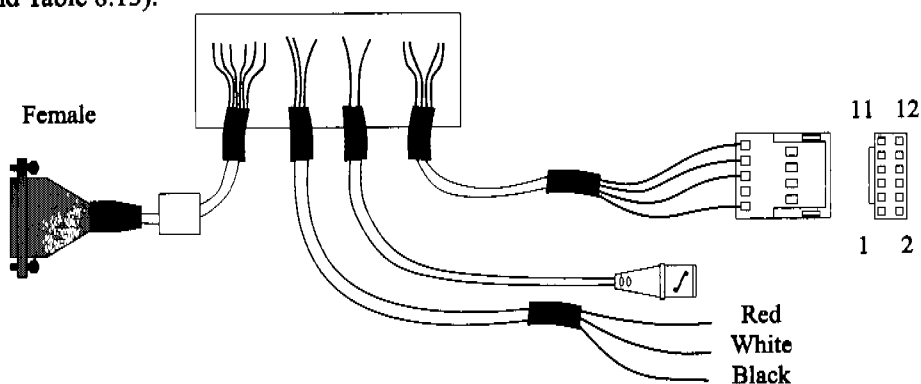

Figure 8.17. Handshake cable to Eclipse/Model 4560/4460 to Agilent 5890, RTE Agilent 1000 GC/MS software (PN 03-505875-00)
Connect the Model 4552 to the OI Analytical Eclipse, Model 4560, or Model 4460 Sample Concentrator with an Agilent 5890, RTE Agilent 1000 GC/MS software (Agilent 58970 MSD or Agilent 5988 MS) using the following instructions (Figure 8.17 and Table 8.13).
4. Attach the remaining connectors to start the data system. See Figure 8.17 for the correct wiring locations. Refer to the GC and data system operator's manuals for correct connector locations.